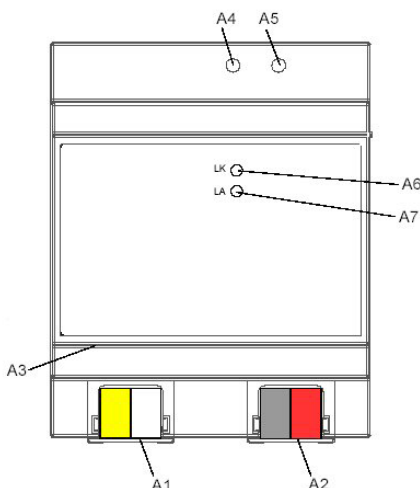

Figure 1: Location of the display and operating elements
- Connect the auxiliary power AC/DC 24V with the yellow-white bus connector terminal (Figure 1, A1).
- Connect the bus line with the black-red bus connector terminal (Figure 1, A2).
- Plug an Ethernet patch cable with an RJ45 plug into the RJ45 socket (Figure 1, A3) to connect the device with the LAN / Intranet.
A connection is established to the network when the yellow LED marked LK (Figure 1, A6) is continuously lit. When the LED LA (Figure 1, A7) flashes data is sent to or from the device.
- Unplug the Ethernet patch cable from the RJ45 socket (Figure 1, A3).
- Remove the yellow-white bus connector terminal (Figure 1, A1) from its socket.
- Remove the black-red bus connector terminal (Figure 1, A2) from its socket.